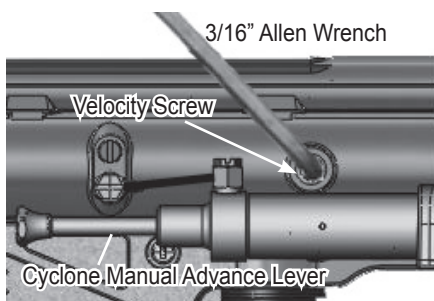

Figure 3: Velocity Adjustment Screw location
- Make sure that the Cyclone Feed System (CFS) housing is clean and free of debris. Make sure the Cyclone's internal arms turn freely when the Manual Advance Lever is pushed (Figure 3).
- e. Push the Manual Advance Lever once to chamber a paintball (Figure 3). Only remove the barrel blocking device and change the Selector Switch to Fire Mode when you are ready to fire the marker in a safe direction.
To adjust the marker's velocity, use the 3/16" Allen wrench included with your marker. The velocity adjustment screw is located on the right side of the receiver (Figure 3). To reduce the velocity, turn the screw inward or clockwise. To increase the velocity, turn the screw counterclockwise. Do not remove the velocity screw.